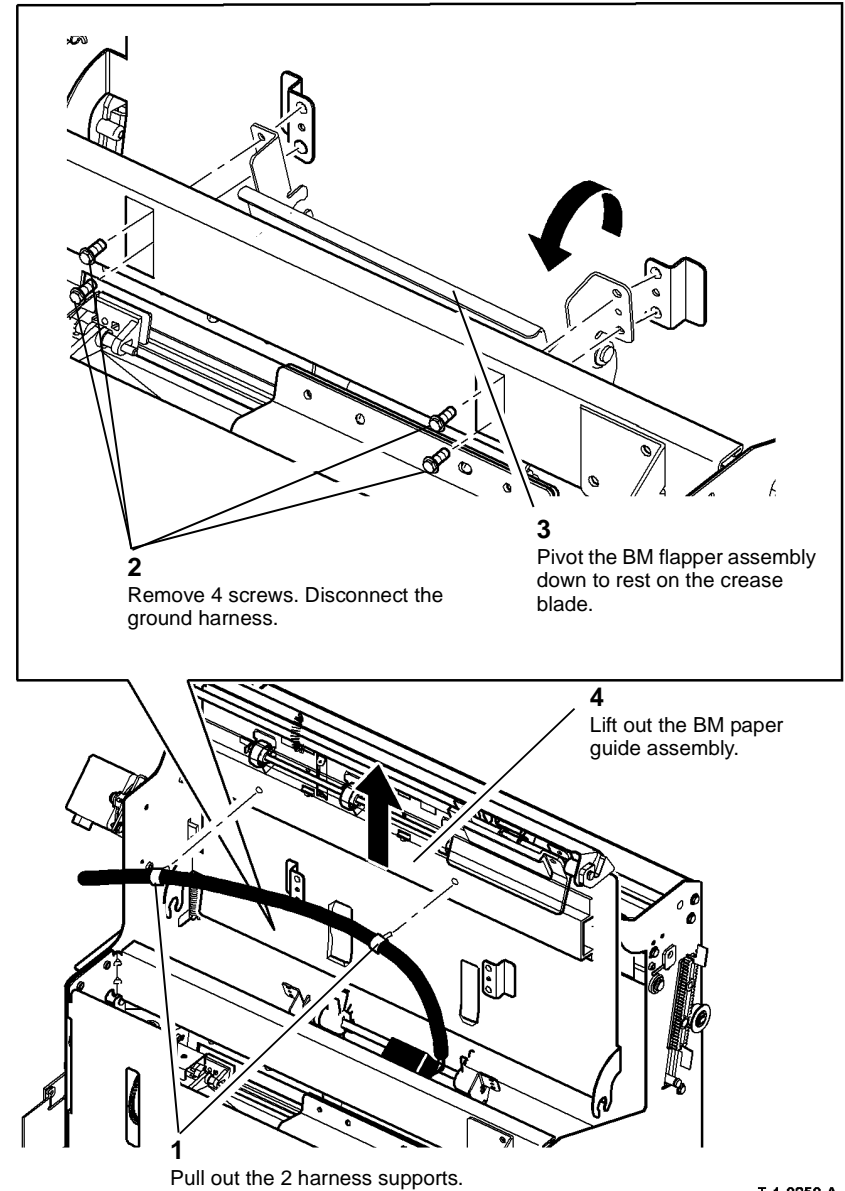

Figure 3 Paper guide assembly removal
8. Figure 3, remove the BM paper guide assembly.